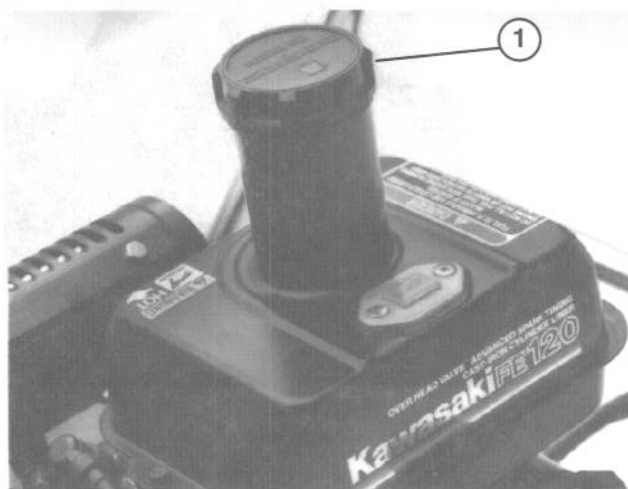

Figure 5
1. Clean around fuel tank cap and remove cap from tank (Fig. 5). Using unleaded gasoline, fill fuel tank no higher than to bottom of filter screen. **DO NOT OVER FILL.**